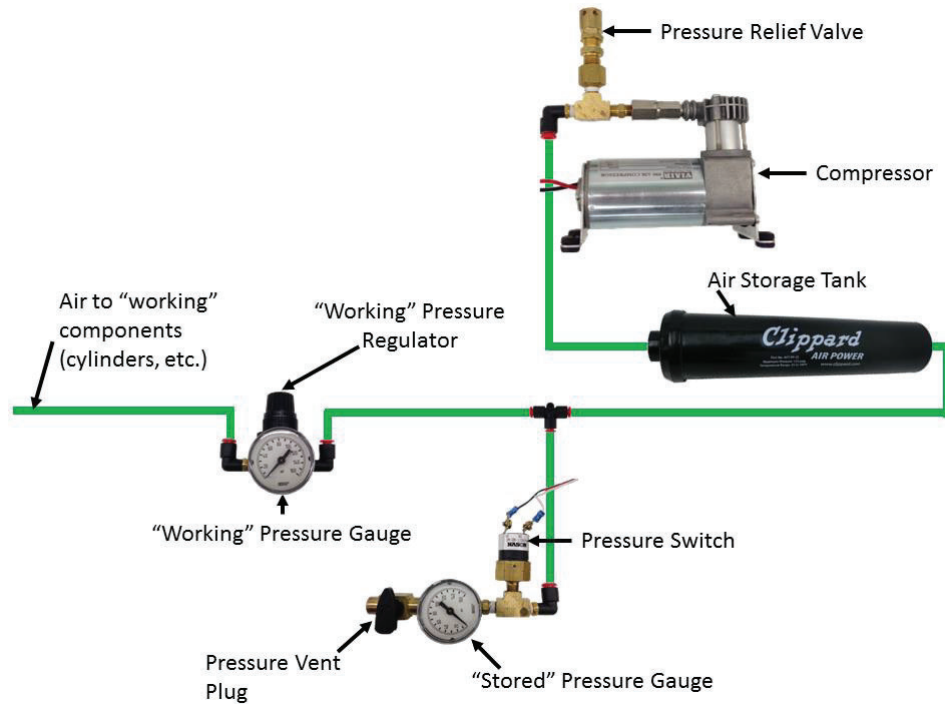

Figure 10-14 Pneumatic circuitry
**R85.** If pneumatic COMPONENTS are used, the following items are required as part of the pneumatic circuit and must be used in accordance with this section, as illustrated in Figure 10-14.
- A.** One (1) *FIRST* Robotics Competition legal compressor (per R86)